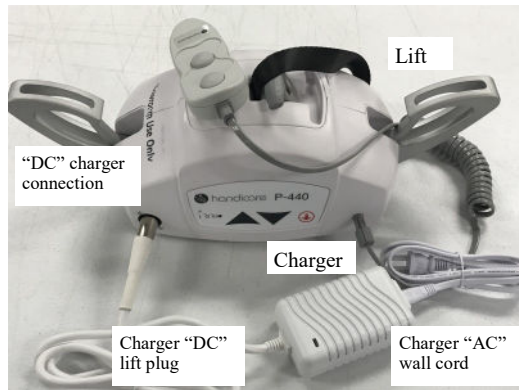

Figure 14A - **P-440** lift and charger set on a secure table top or counter for charging.
Step 1) Familiarize yourself with the basic components of the charging system. Refer to figures 14A and 14B.